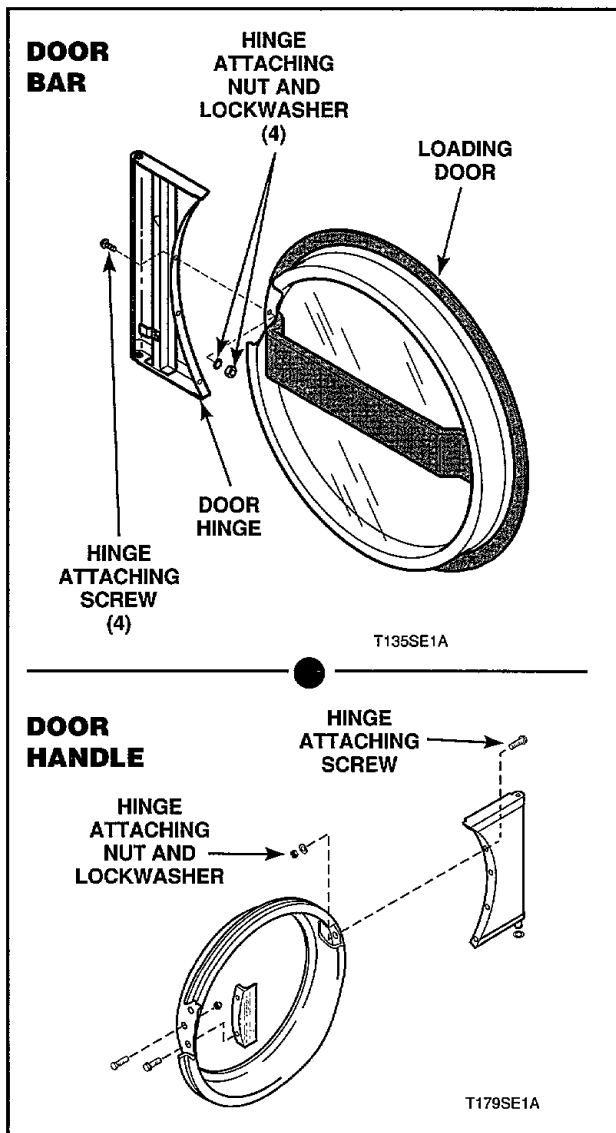

Figure 2
3. DOOR HINGE (Figure 2)
- Remove nuts and screws holding hinge to door frame, Figure 2.